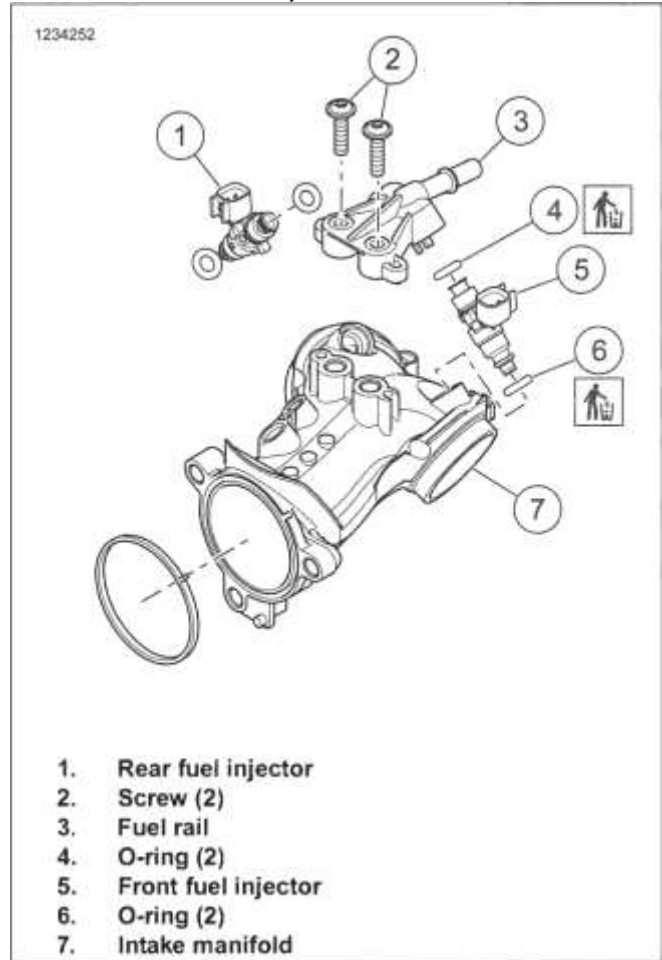

Figure 6-31. Fuel Injectors
2. See Figure 6-31. Remove fuel rail and fuel injectors.
- a. Remove screws (2).
- b. Remove fuel rail (3).
3. Discard all O-rings (4, 6) from fuel rail (3).
1. See Figure 6-31. Install fuel injectors to intake manifold.